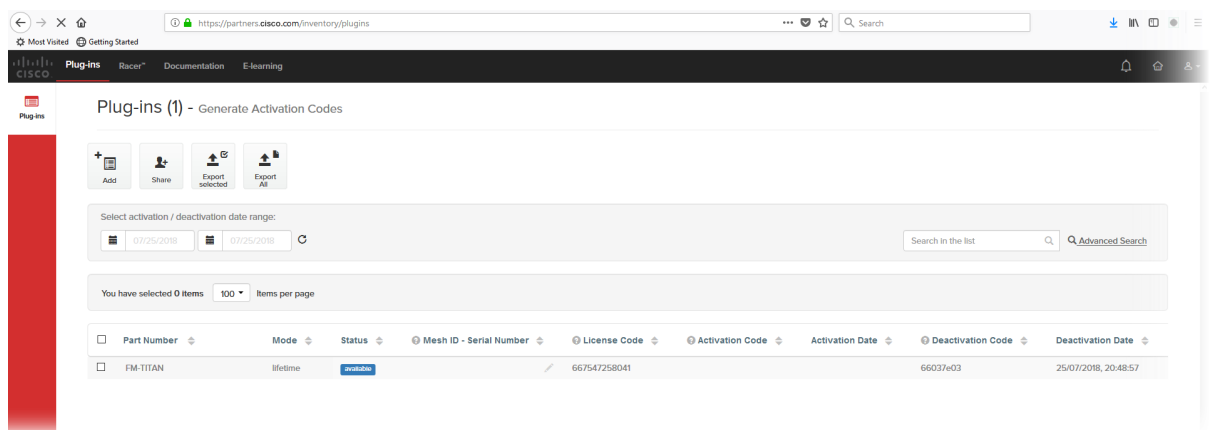

Figure 61. Partner Portal (Plug-ins web page)
- The Plug-ins web page will be shown (Figure 61 \(page 110\)).